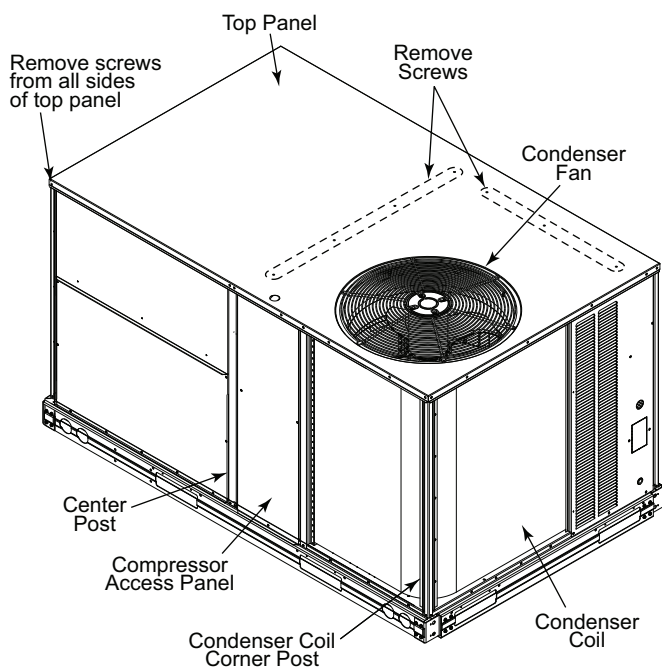

Fig. 14 — Location of Screws and Coil Corner Post
2. Remove all screws from the top panel except the screws securing the condenser fan to the top panel. See Fig. 14.